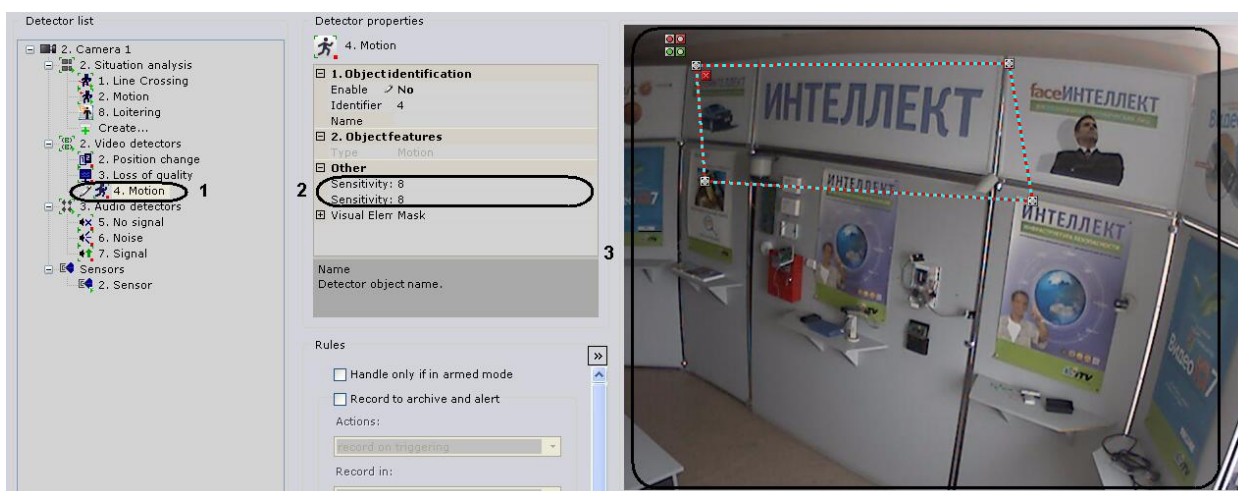

Fig. 6.5—15 Configuring a motion detector
1. In the detector list, highlight a **Motion** video detector object (Fig. 6.5—15, 1).
2. In the **Sensitivity: contrast** field (see Fig. 6.5—15, 2), enter the sensitivity of the detector to object contrast. You should select a value empirically in the range [0, 16]. The greater the value, the less contrastive the objects which can be detected.
3. In the **Sensitivity: size** field (see Fig. 6.5—15, 2), enter the sensitivity of the detector to object size. You should select a value empirically in the range [0, 10]. The greater the value, the smaller the objects which can be detected.
4. In the viewing tile, set detection zones and/or masks in the same way as for situation analysis detectors (see Fig. 6.5—15, 3).